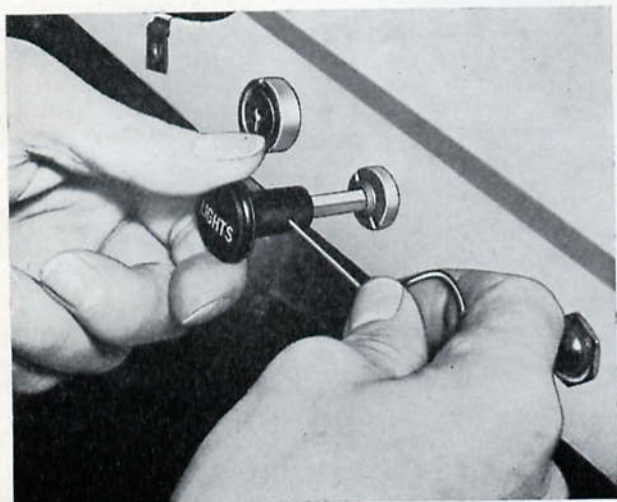

Fig. S.12. Depressing the plunger to release the lighting switch knob
3. Pull the switch knob out to its extreme position, depress the retaining plunger and withdraw the knob (Fig. S.12).